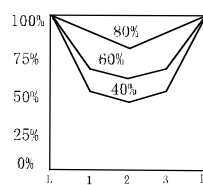

Fig. 2
②Inverted flight throttle curve adjustment: switch the 3D inverted flight switch to the 3D inverted flight mode. When V1 is tuned to 0 position, the curve is V-shape and the throttle center is at 60%. Tune V1 to the "+" end, and the curve moves up and its maximum range is 80%; tune V1 to the "-" end, and the curve moves down and its minimum range is 40% (Fig. 2).